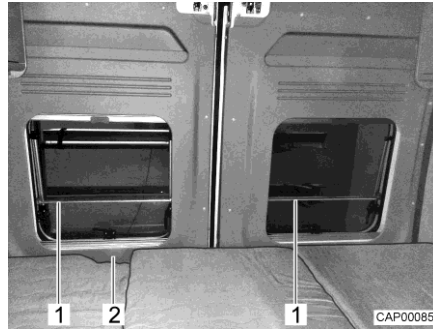

Fig. 57 Fall out protection (longitudinal rear bed)
- ▷ The windows of the rear doors are equipped with a fall out protection (Fig. 57,1). The garage door can always be unlocked from the interior via the opening (Fig. 57,2).